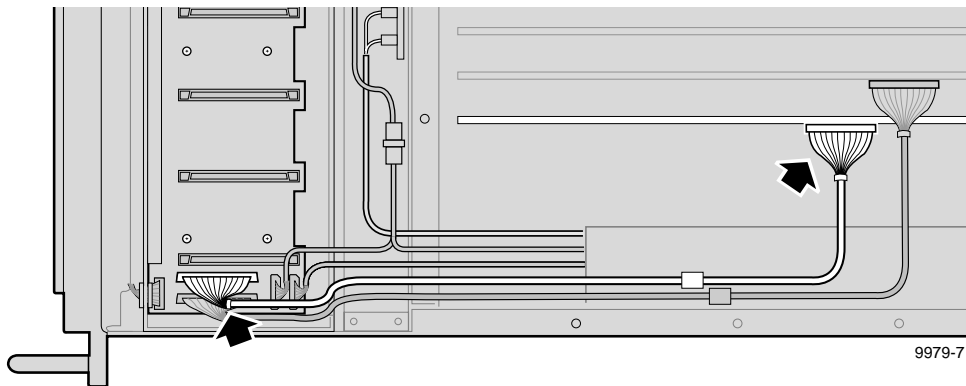

Figure 5. 4-channel PDR 200 SCSI Cable Installation
2. Connect one end of the SCSI cable to the unused connector on the SCSI backplane. See Figure 5.
5. Connect the free end of the cable to the SCSI header connector on the front of the Slave Enhanced Disk Recorder board (Figure 5).